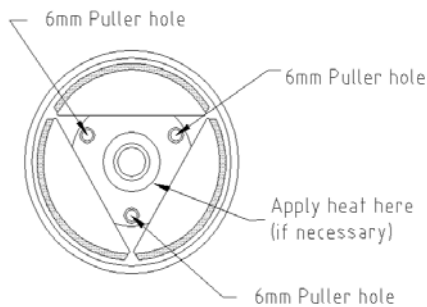

Figure 30
3. Attach the Universal Puller. There are three 6mm clutch puller holes located on the ends of the center hub. (figures 30 & 31) You must use a *draw type puller* to remove the clutch.